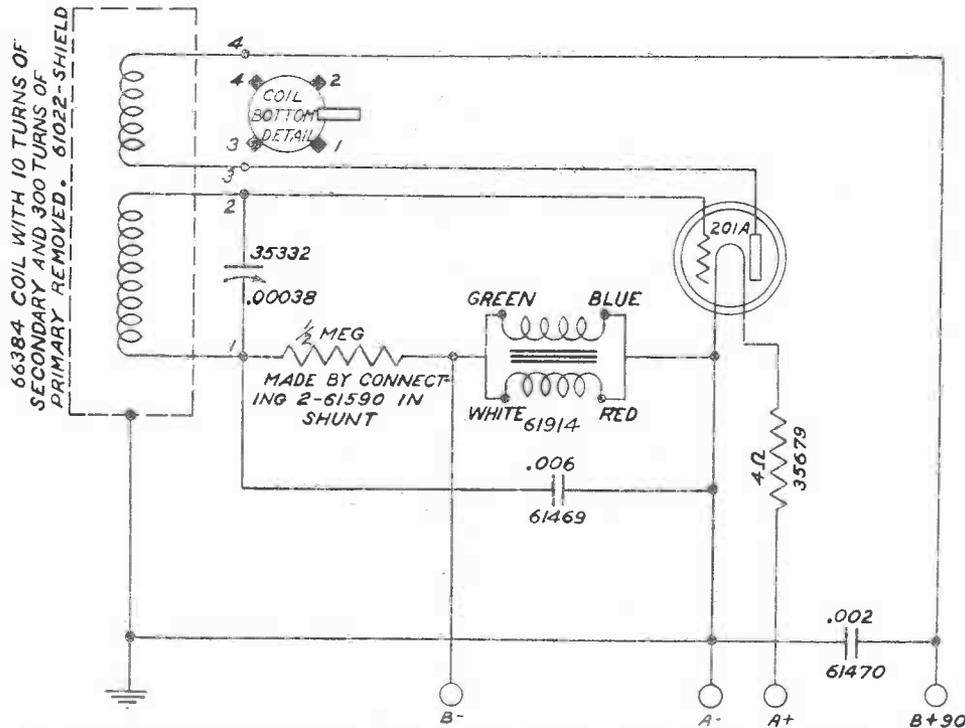

Fig. 5. Circuit Diagram of Modulated Oscillator Using Stewart-Warner Parts
4. We will assume that you have an adequate modulated oscillator (Fig. 5) for without this, it is impossible to line up a set properly. The practice of phasing a set on a weak or distant station is most strongly discouraged, since it can only result in approximate settings. The signal must be a steady note as well as constant in intensity; likewise it must be sharper than broadcast. A phasing wrench (our tool No. T-59926, price \$1.00) and a phasing plunger (tool No. T-62411, price \$0.25) as described below are the only tools required.